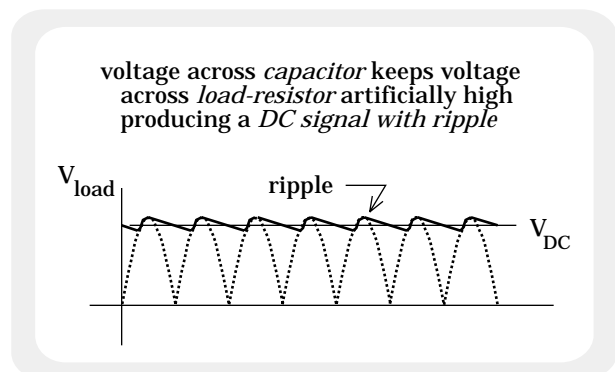

FIGURE 21.9
c.) After a time the power cycle returns to higher voltages whereupon the voltage across the resistor increases. At that point, the capacitor also begins to re-charge and the cycle begins all over again. A graph of the superposition of all the voltages affecting the resistor is shown in Figure 21.9.
d.) Note that the net voltage across the load resistor shown in Figure 21.9 is not completely constant. This variation in AC generated DC is called ripple.